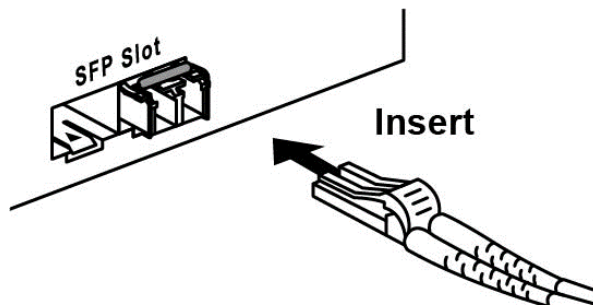

Figure 2.12: LC Connector to the Transceiver
Step 2. Insert the fiber cable of the LC connector into the transceiver as shown below in Figure 2.12.